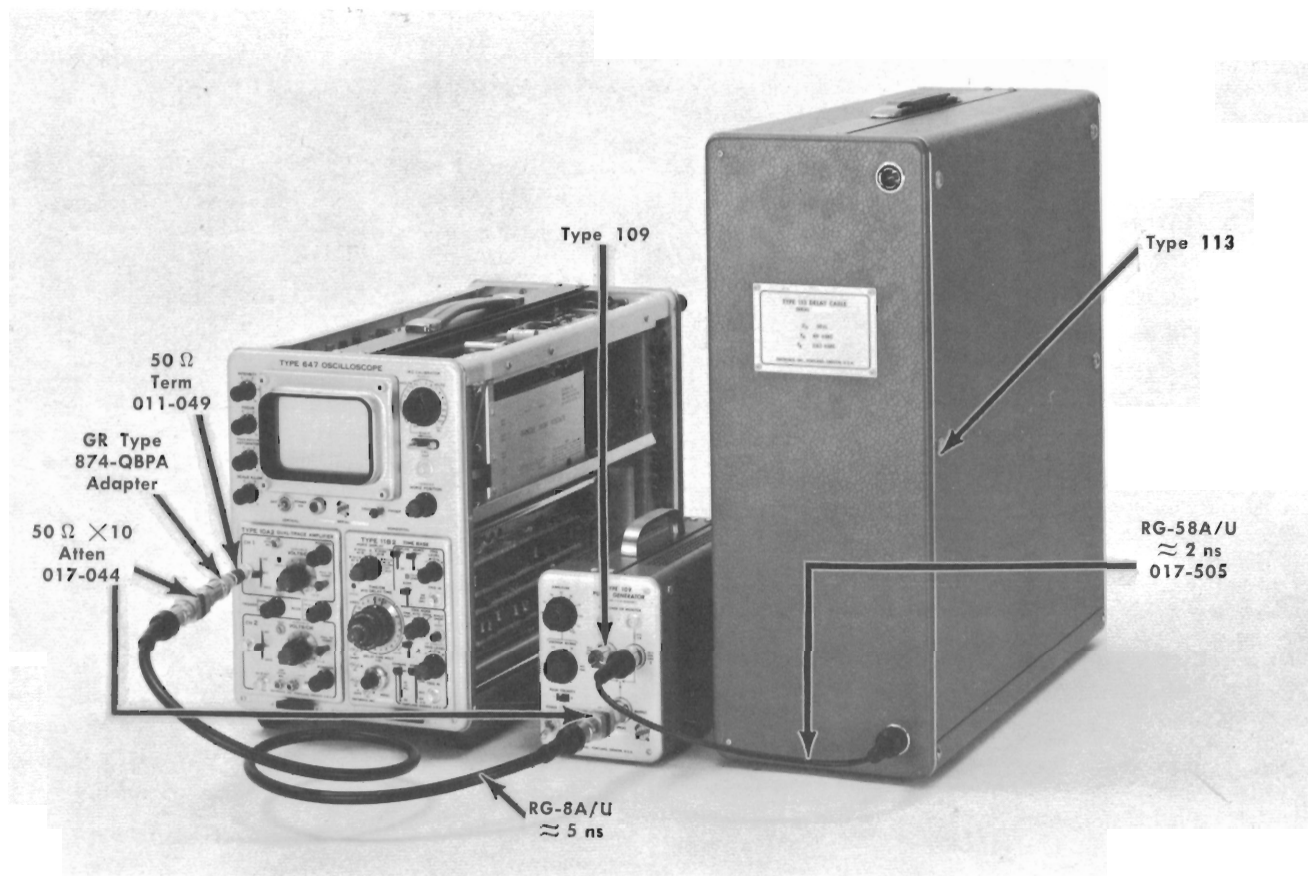

Fig. 5-2. Setup for high-frequency compensation adjustments.
- b. Connect the pulse generator to the Type 10A2 CH 1 input as shown in Fig. 5-2.